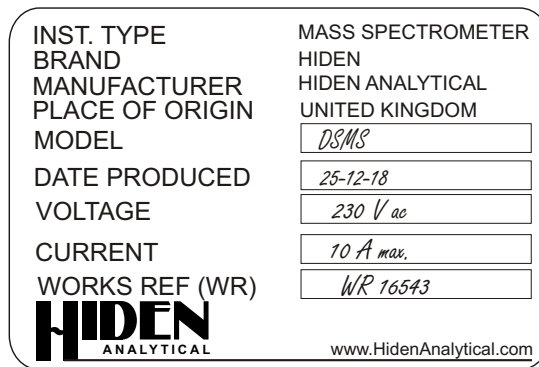

Figure 4 Serial number label
The number is displayed on the serial number label attached to left side of the system's top cover. The WR number is the five digit number displayed in the **WORKS REF (WR)** box, WR 16543 in Figure 4. It is worth making a note of this number if the left side of the system will be inaccessible.